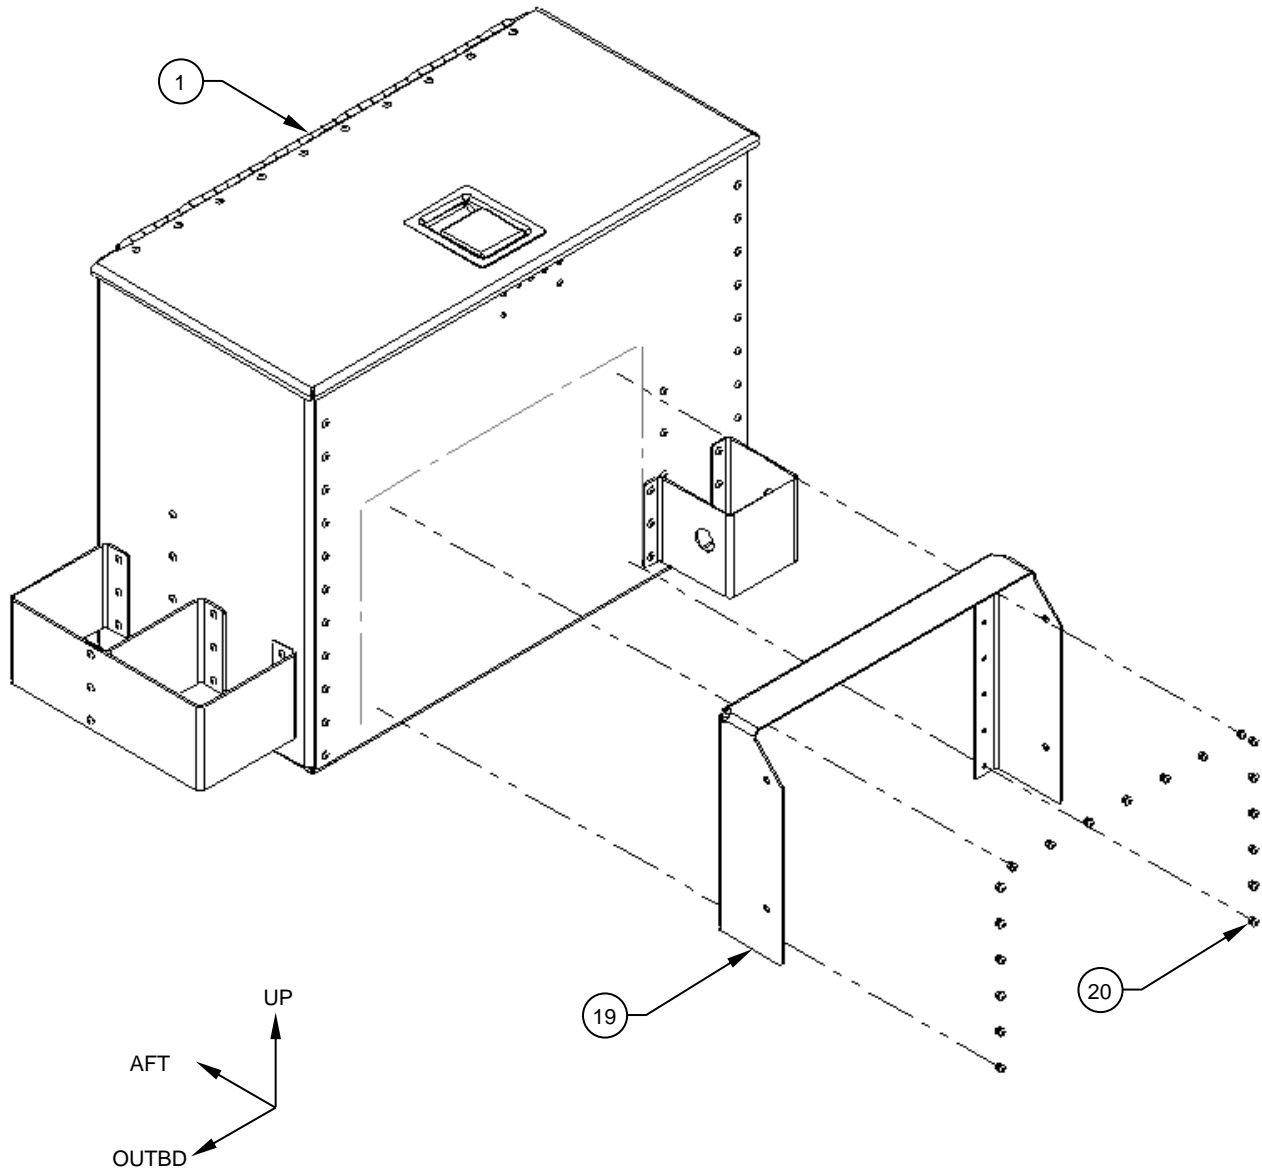

Figure 4
5. Line up the Pedestal Attachment Flange, Detail (Item 19) with the locations marked. Transfer holes 19x & rivet. Reference Figure 4.